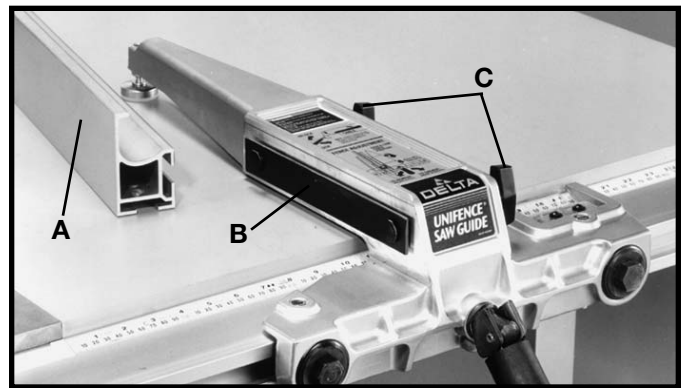

Fig. 82
In some cases it may be desirable to use the fence on the left side of the saw blade. This is accomplished by repositioning the fence (A) Figures 82 and 83, fence clamp bar (B) and lock knobs (C) so that the fence (A) will be attached to the right side of the fence body, as shown in Fig. 83. The complete fence assembly (D) Fig. 83, can easily be moved to the left side of the saw table.